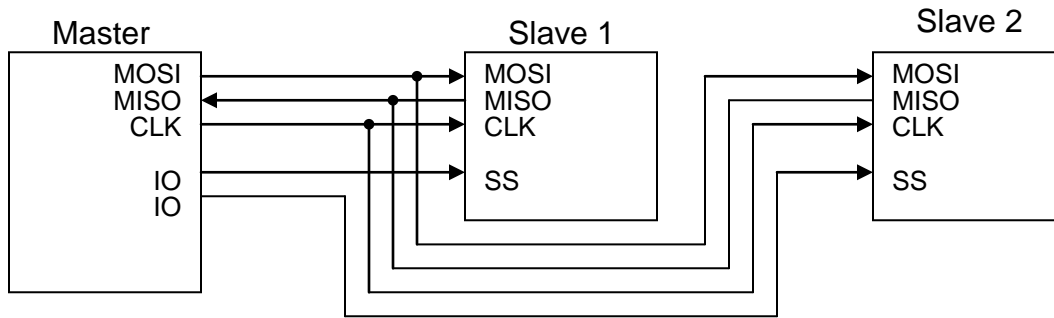

Fig. 14-1: SPI signals between master and slave devices
**TxAK:** The Acknowledge status transmit bit. When received complete 8 bits data, this bit will set (NoAck) or clear (Ack) and transmit to master to indicate the receive status. Actually, it is sent as the 9th bit in one byte transmission as show in Fig. 14-1.
In the master mode, it can select the desired slave device by any IO with value = 0. Fig. 14-1 is an example showing the relation of the 4 signals between master and slaves.